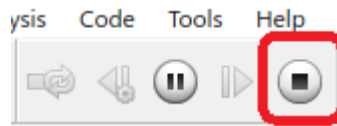

Figure 12: Stop button in Simulink model.
Step 10: Once the test-flight has ended, **click** on the “Stop” button (figure 12) in the top ribbon to stop the Simulink model.